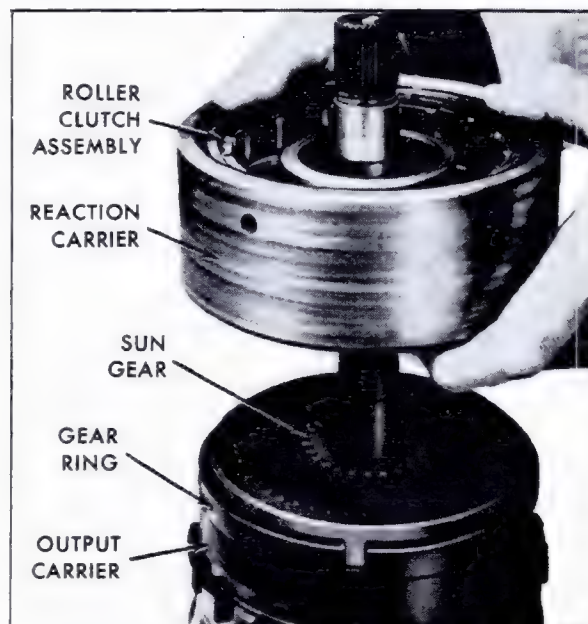

Fig. 7-176 Removing Reaction Carrier and Roller Clutch Assembly
c. Remove reaction carrier and roller clutch assembly from output carrier, Fig. 7-176, and remove roller clutch assembly from reaction carrier.